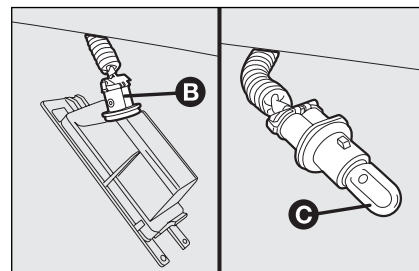

fig. 35
- turn the bulb holder **B-fig. 35** clockwise;